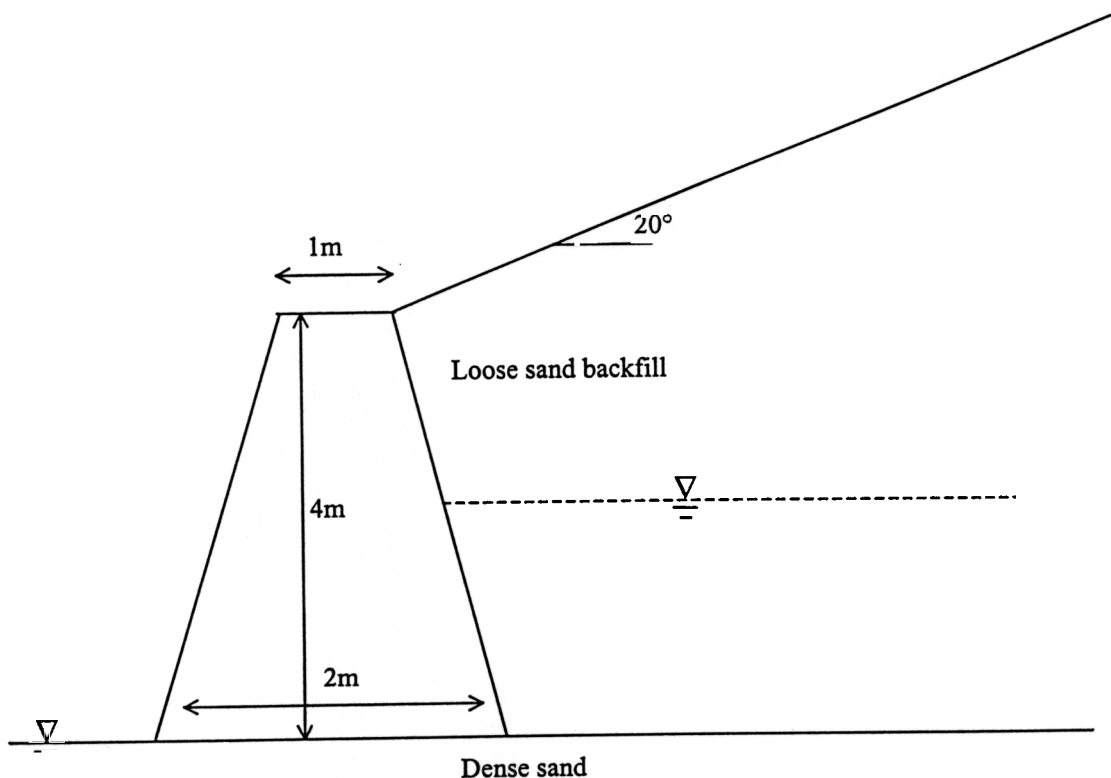

Figure Q.5
5. Figure Q.5 illustrates a concrete (25 kN/m^3) gravity retaining wall that supports a sloping sandy backfill ($\phi' = 28^\circ$, $\gamma_t = 21 \text{ kN/m}^3$). The slope of the backfill is 20° . The water table behind the wall is horizontal and 2m above the base of the wall. In front of the wall the water table is at ground surface. The base of the wall rests on a dense sand ($\phi' = 35^\circ$, $\gamma_t = 22 \text{ kN/m}^3$). The 4m high wall is symmetrical with a width of 1m at the top and 2m at the base. Assume that all the contact faces between the wall and the soil are very rough. **Make all necessary conservative assumptions regarding water pressure distributions.** What is the factor of safety of the wall?